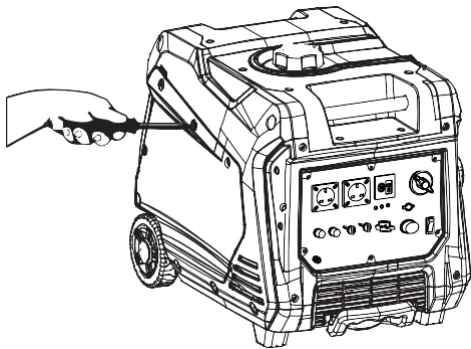

Figure 13: Remove Engine Service Panel
2. Remove the Engine Service Panel to gain access to the air filter (see Figure 13).
1. Remove the Engine Service Panel to access the carburetor (see Figure 13 on page 16).
21. Remove the Engine Service Panel to gain access to the spark plug (see Figure 13 on page 16).